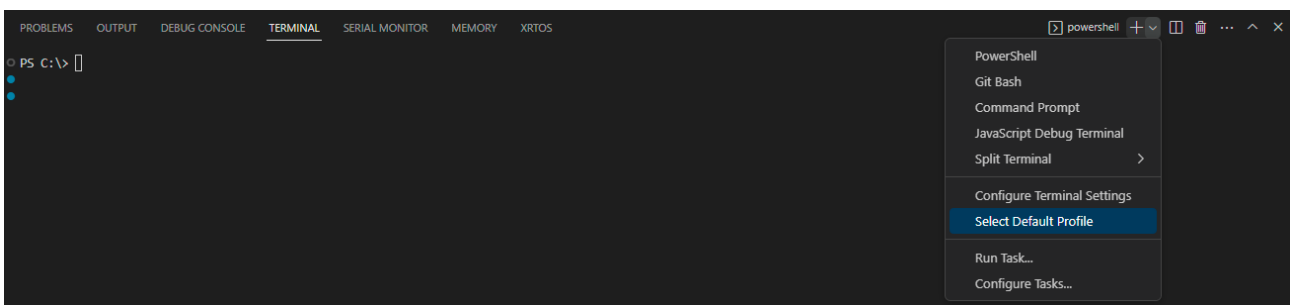
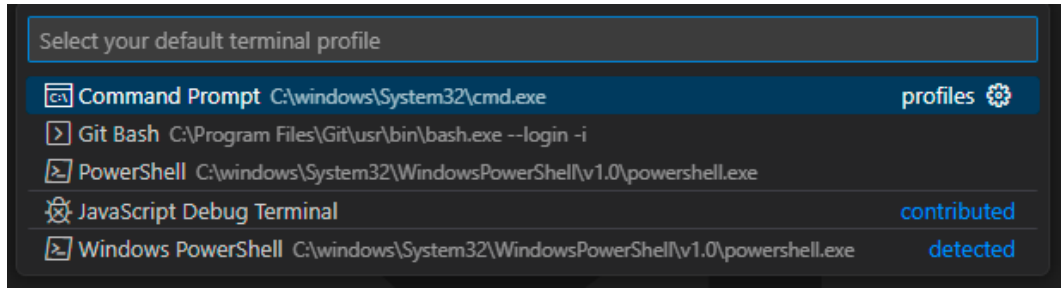

Figure 4: “Select Default Profile” location.
Figure 5: Replacing default terminal to Git Bash.
3. Go to “Select Default Profile” and change the default terminal to “Git Bash”. Figure 4 shows where to find the “Select Default Profile” option and Figure 5 shows the CMD terminal being replaced to Git Bash as default terminal profile.